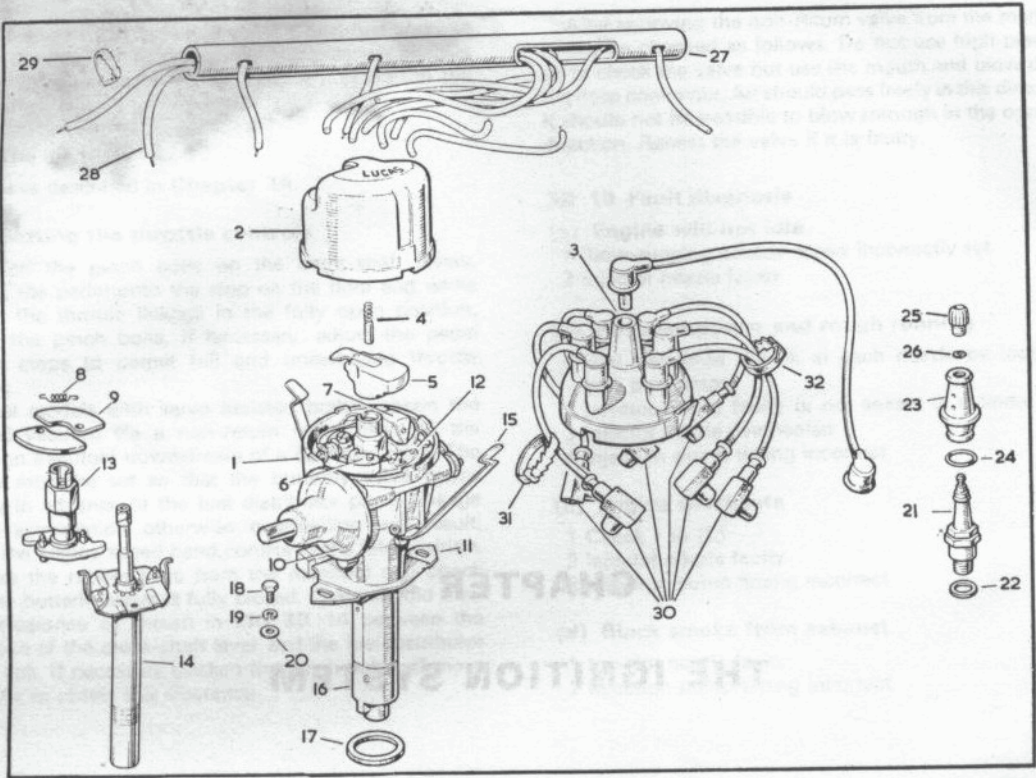

FIG 4:1 Exploded view of distributor
The weights of the centrifugal device fly out against the tension of small springs as engine speed rises. This movement advances the contact breaker cams relative to the distributor driving shaft to give advanced ignition. The vacuum unit is connected by a small-bore pipe to the inlet manifold. Depression in the manifold operates the vacuum unit, the suction varying with engine load. At small throttle openings, with no load on the engine, there is a high degree of vacuum in the manifold causing the vacuum unit to advance the ignition. When hill-climbing on large throttle openings, the much reduced vacuum ensures that the unit will retard the ignition. The various elements of the two automatic controls can be seen in FIG 4:1 as items 8, 9 and 10.
Refer to FIG 4:1 and remove distributor cap 2. Pull rotor 5 squarely off the end of cam spindle 13. Now lubricate the cam spindle. Add only a few drops of oil to the recess and do not remove the screw. There is clearance provided for the oil to make its way downwards.
Refer to FIG 4:2 and slacken screw C. Adjust the points to the correct gap of .014 to .016 inch (.35 to .40 mm) as measured with a feeler gauge. It will be necessary to turn the engine until one of the cams has opened the points to the fullest extent so that the gap is measured at the position of maximum opening. Do not alter the gap unless it varies considerably from the suggested setting.
Key to Fig 4:1 1 Distributor body 2 Distributor cap, early type 3 Distributor cap, latest type 4 Brush and spring for cap 5 Rotor arm 6 Contact points 7 Condenser 8 Auto advance spring, set 9 Auto advance weight 10 Vacuum unit 11 Clamping plate 12 Base plate for contact breaker 13 Cam 14 Shaft and action plate 15 Clip for cover 16 Driving dog washer (Fixing distributor to cylinder block) 17 Cork washer for distributor housing 18 Setbolt ($\frac{1}{8}$ in UNF x $\frac{3}{16}$ in long) (Fixing distributor to cylinder block) 19 Spring 20 Plain washer (Fixing distributor to cylinder block) 21 Sparking plug 22 Washer for plug 23 Cover for sparking plug 24 Rubber sealing ring for plug cover 25 Cable nut 26 Washer for cable nut 27 Ignition wire carrier 28 Sparking plug lead set 29 Cable cleat securing No. 1 plug lead and coil leads